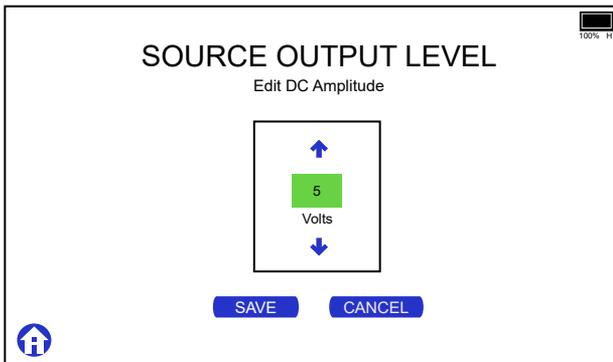

Figure 17: 1 PPS Source Voltage Level Configuration Screen
1. Touch the Variable (50 Ohm Source) to open the SOURCE OUTPUT LEVEL adjustment screen – see Figure 17.